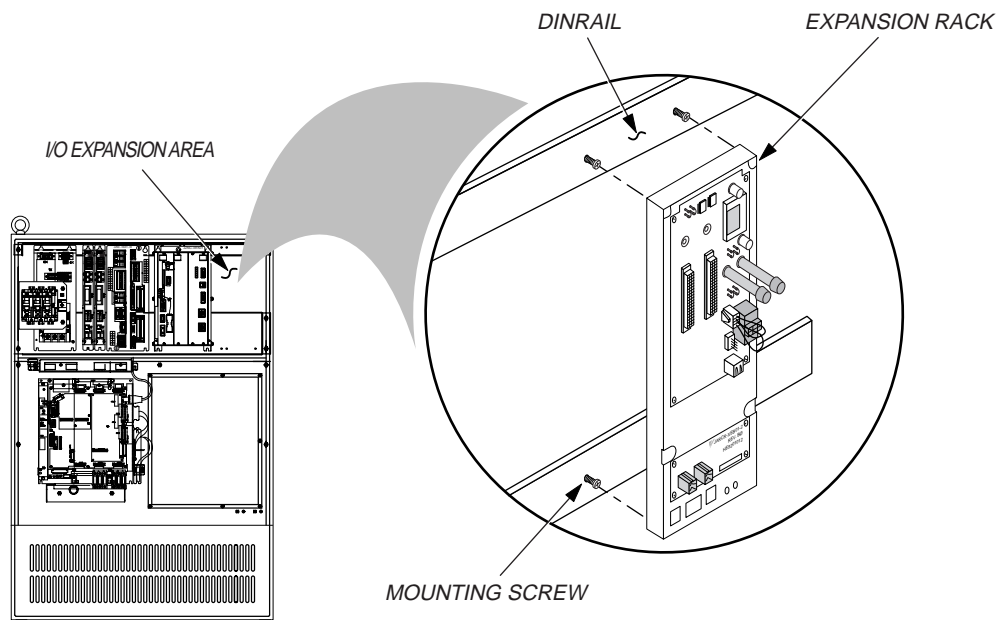

Figure 1-3 XRC I/O Expansion Rack Installation
- b) With personal grounding strap connected, locate expansion area (see Figure 1-3).
- c) Using a phillips screwdriver, loosen but do not remove, four mounting screws (see Figure 1-3).